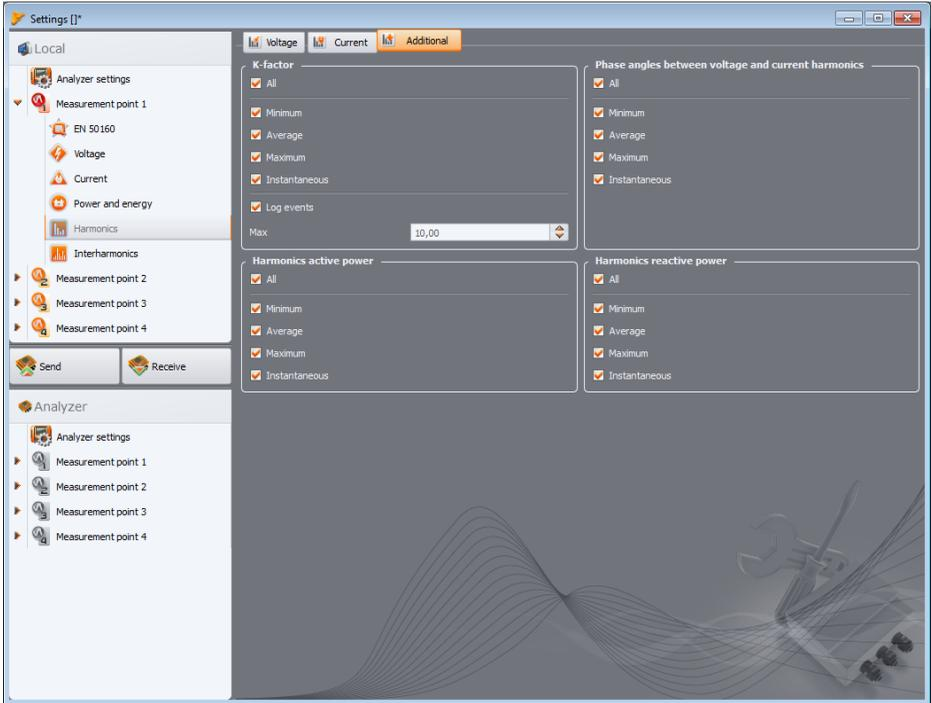

Fig. 28. Additional settings of harmonics.
**ADDITIONAL** tab (Fig. 28) includes the following parameters: